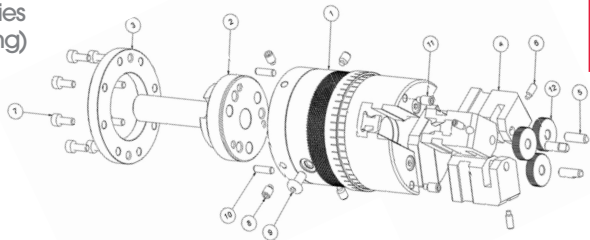
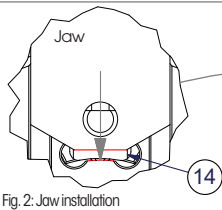
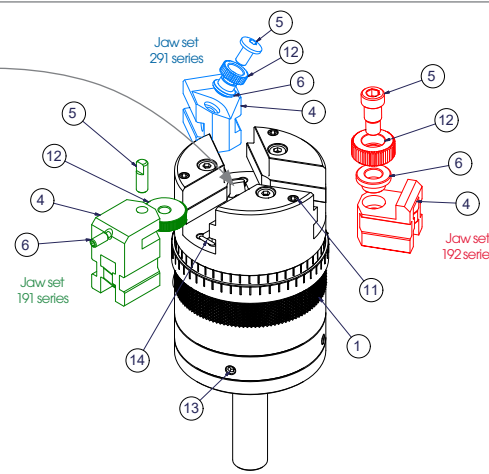

Fig. 1: Series 191 exploded drawing
Fig. 2: Jaw installation
Fig. 3: General view + jaw variants
Please specify the tool number and the corresponding position number (see Fig. 1).
Various jaws are pre-assembled depending on the tool type. Conversion between the milling machining process (291 series), forming (191 series) and forming up to a shoulder (192 series) can take place by using different jaw sets. These variants are shown in Figure 3.
If the jaw sets must be replaced, first remove the stop screw completely (Fig. 1, Pos. 9) and loosen the three threaded pins (Fig. 3, Pos. 11). Then turn the threaded bush (Fig. 1 + 3, Pos. 1) counterclockwise (CCW) until the knurling jaws (Fig. 1 + 3, Pos. 4) can be removed individually from the guide slot.
Vertical positioning of the tool is recommended for easier installation (pull knurling jaws upward, Fig. 3). Now slide the jaws (Fig. 1 + 3, Pos. 4) into the guide slots until the front edge of the jaw is flush with the surface of the recess facing inward (Fig. 2). Then, turn the threaded bush clockwise (CW) until the guide slot of the splined bush (Fig. 2 + 3, Pos. 14) engages in the jaws and pulls them together evenly. Screw in the stop screw again (Fig. 1, Pos. 9).
Loosen the threaded pin (Fig. 1 + 3, Pos. 6) and remove the axle pin (Fig. 1 + 3, Pos. 5). Change the knurling wheel (Fig. 3, Pos. 12) and fix it with the axle pin in the groove.
Completely loosen the bearing screw (Fig. 3, Pos. 5) and remove the knurling wheels (Fig. 3, Pos. 12). Fit new knurling wheels on the bearing bush (Fig. 3, Pos. 6) and fix with the bearing screw (cf. Figure 3).
Completely loosen the lock screw (Fig. 3, Pos. 5) and remove it with the knurling wheel (Fig. 3, Pos. 12) and the bearing bush (Fig. 3, Pos. 6). Then fit a new knurling wheel on the bearing bush and tighten screw it together with the jaw (Fig. 3, Pos. 4) with the lock screw (cf. Figure 3).
2. Unscrew the fastening screw (Fig. 1, Pos. 9) and threaded pins (Fig. 1, Pos. 8; Fig. 3, Pos. 11)
3. Unscrew the threaded bush (Fig. 1, Pos. 1; Fig. 3, Pos. 1) and move over the workpiece in the Z-direction
6. Tighten the threaded (Fig. 1, Pos. 8) pins evenly
Setting of the profile depths takes place after the centring of the toolholder. This depends on the knurling process, pitch, profile and material displacement to be carried out. For this purpose, loosen the fastening screw (Fig. 1, Pos. 9) and threaded pins (Fig. 1, Pos. 8) and turn the threaded bush (Fig. 1 + 3, Pos. 1) clockwise.
Then, firmly tighten the fastening screw (Fig. 1, Pos. 9) and threaded pins (Fig. 2, Pos. 8) for fixing the diameter (observe torque table, chapter 6).
Replace the bearing bush (Fig. 3, Pos. 6; 192/291 series), knurling wheel (Fig. 3, Pos. 12), bearing screw (Fig. 3, Pos. 5; 192 series) and lock screw (Fig. 3, Pos. 5; 291 series) and axle pin (Fig. 3, Pos. 5) after a reasonable number of cycles, no later than upon appearance of significant wear or deviating process parameters.